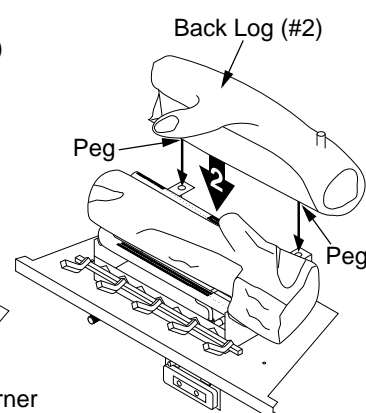

Figure 50 - Installing Back Log (#2)
2. Locate pegs on the bottom of back log (#2). Slide these pegs into the holes in the grate base behind the burner (see Figure 50).